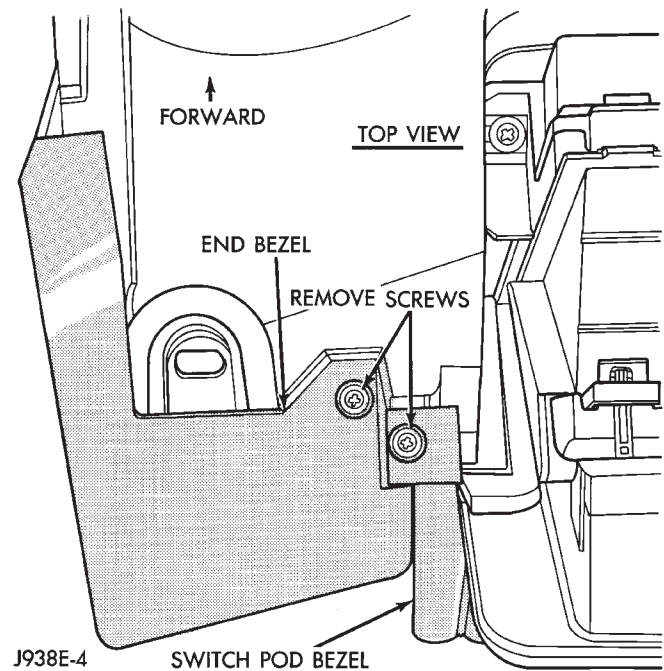

Fig. 7 Remove Screws Holding Top Of Bezels
- (18) Remove 2 screws holding top of end and switch pod bezels (Fig. 7). The end bezel can now be removed.